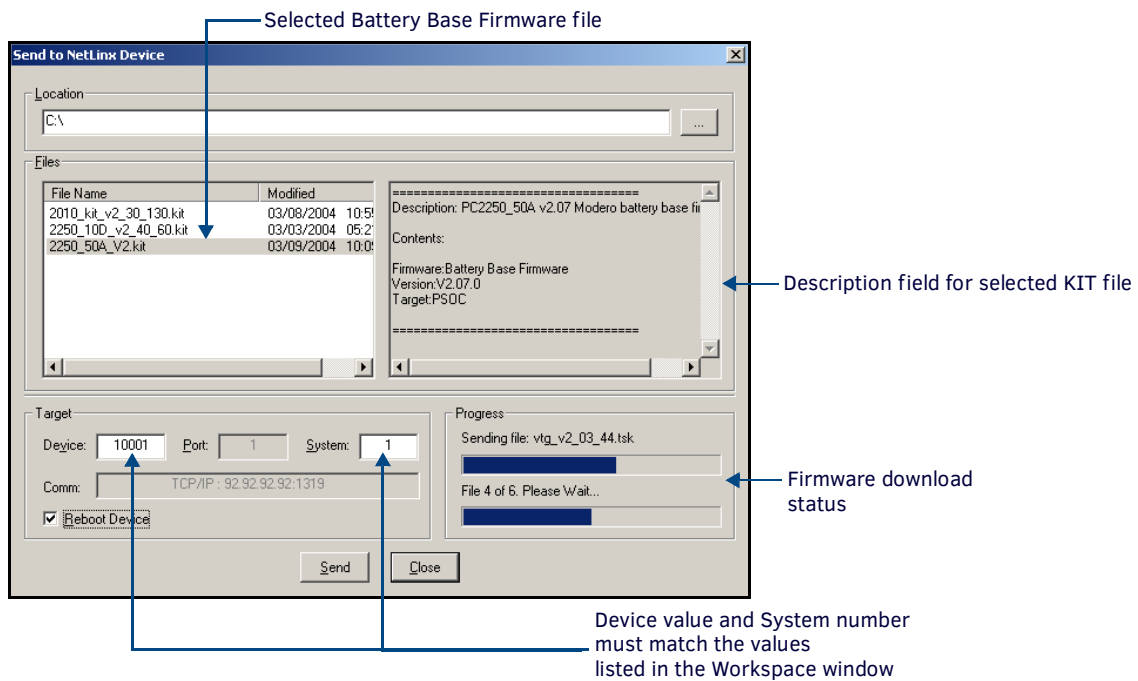

FIG. 98 Send to NetLink Device dialog (showing NXA-BASE/B firmware update via IP)
6. From within Studio, select **Tools > Firmware Transfers > Send to NetLinx Device** from the Main menu to open the Send to NetLinx Device dialog (FIG. 98). Verify the panel's System and Device number values match those values listed within the System folder in the **OnLine Tree** tab of the Workspace window.
7. Select the battery base's KIT file (*ending in VXX.kit*) from the **Files** section (FIG. 98).
10. Click **Send** to begin the transfer. The file transfer progress is indicated on the bottom-right of the dialog (FIG. 98).